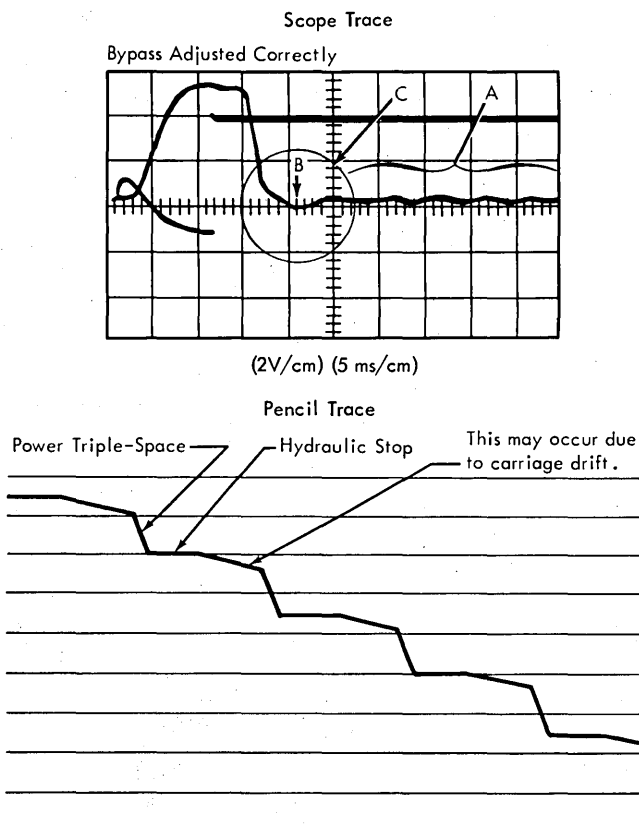

Figure 4-70. Bypass Adjusted Correctly
- c. Slowly back off the bypass needle valve until the line graph or scope trace resembles that for a correctly adjusted bypass in Figure 4-70.